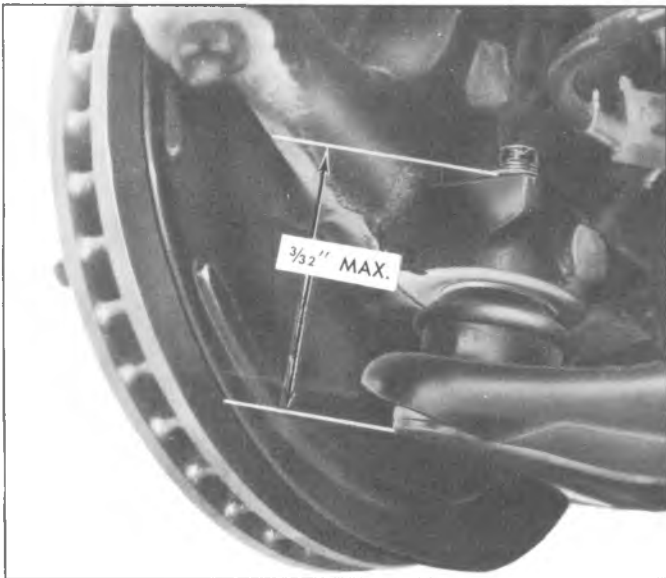

Fig. 3C-28-Checking Lower Ball Joint
3. Move support to control arm to allow wheel hub and drum to hang free. Measure distance as in Step 2. If the difference in measurements exceeds .094" (3/32") for all models, ball joint is worn and should be replaced (Fig. 3C-28).